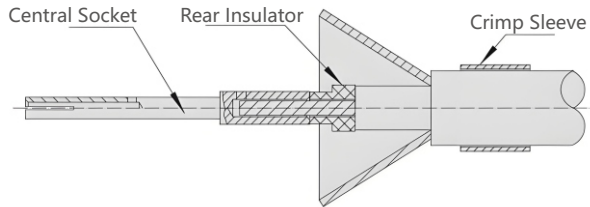

Figure 1.4
④ Assemble the central socket onto the central conductor of the cable as shown in Figure 1.4. The central conductor of the cable should be visible through the observation hole at the tail of the central socket. Use crimping tool M22520/2-01 (set to position 5) and locator M22520/2-35 for crimping.